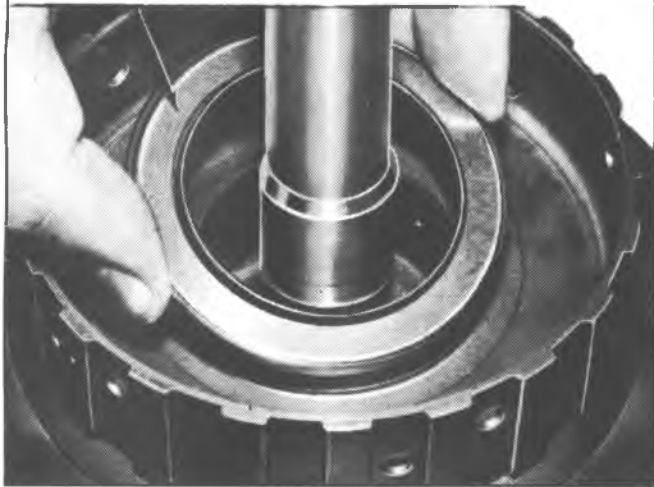

Fig. 7A-72B--Direct Clutch Drum to Forward Clutch Housing Needle Roller Bearing
4. Remove direct clutch drum to forward clutch housing needle roller bearing (fig. 7A-72B).